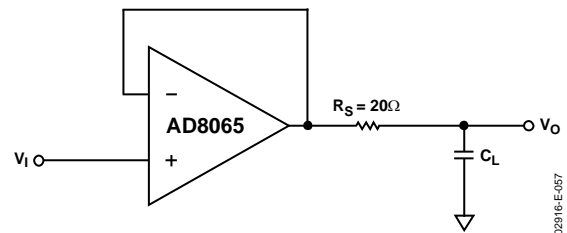

Figure 57. Output Isolation Resistor
- As shown in Figure 57, put a small value resistor ( $R_S$ ) in series with the output to isolate the load capacitor from the amp's output stage. A good value to choose is  $20\ \Omega$  (see Figure 10).